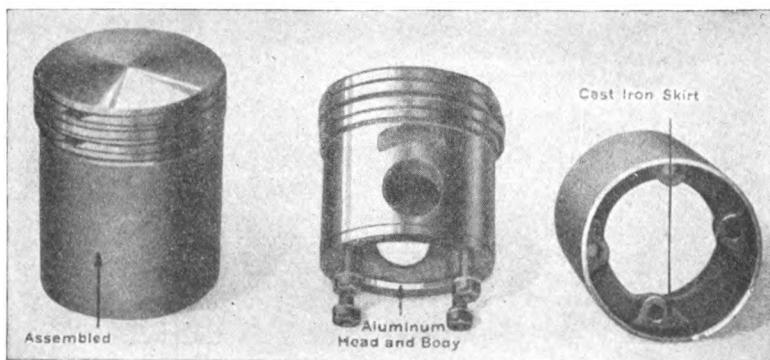

Fig. 38. Marmon Two-Piece Piston as Used on the 1920 Car
*Marmon Two-Piece Piston.* The body of this piston, Fig. 38, is of aluminum, and the cast-iron sleeve is bolted on to this body. The aluminum part is die cast and carries three rings and the piston pin as well as the four studs which hold the skirt of the piston. The skirt is a light cast-iron cylinder whose only connection with the head portion is at the flange, where they are bolted together. This construction allows the aluminum head to expand or contract without effecting the cast-iron skirt and thereby combines the aluminum and cast-iron pistons.